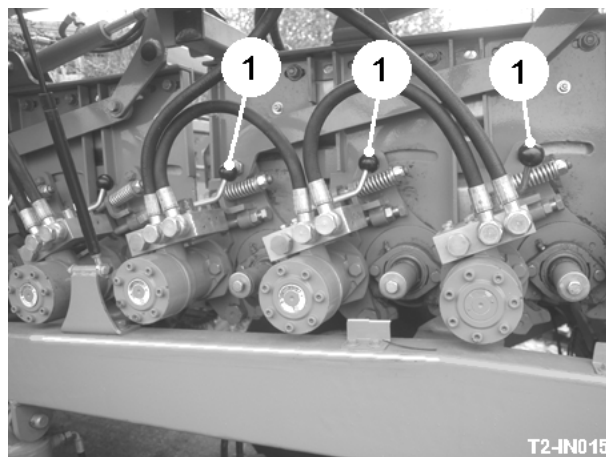

Fig 16
The 1st and 2nd Omega separators are both 3 roller units. To encourage a steady feed over the separators, they are individually mounted allowing them to be hydraulically angled between 0° and 8°. The scroll speed of each unit can be set on the service terminal screen. The speed of each set of clod rollers is set on the service terminal. In addition, each clod roller motor is fitted with a manual reversing valve (item 1, fig 16) allowing the operator to fine tune the separation.